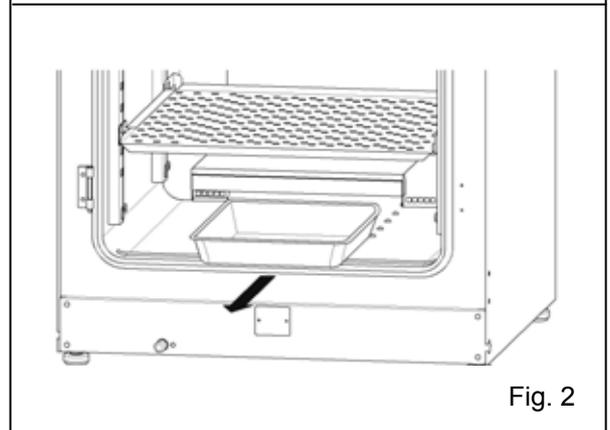

Fig. 2
3. Lift the front of the tray supports and pull them out. (See Fig. 2.)
2. Pull the humidifying pan forward. (See Fig. 2.)
5. Set the humidifying pan cover, humidifying pan, fan cover, the N₂ or O₂ gas injection nozzle and the N₂ or O₂ gas injection nozzle tube as shown in Fig. 2, and close the inner door and outer door .